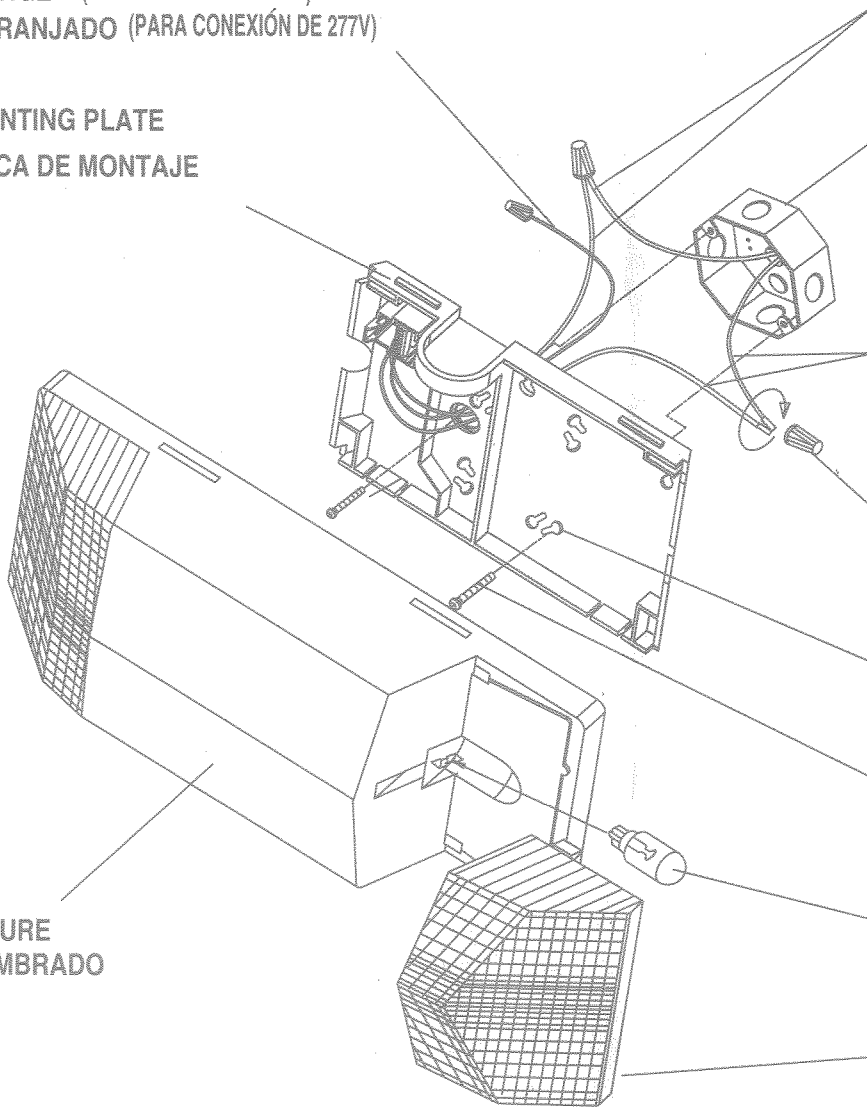

Fig.1
1. Remove mounting plate from fixture by prying with screwdriver. (see Fig.1)